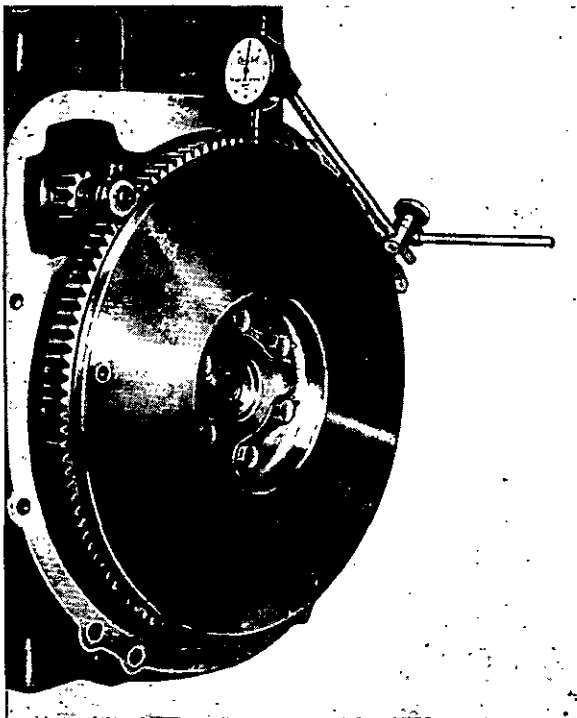

Fig. N.1. Checking Flywheel Run-out.
- Set up an indicator clock gauge with the base secured to the flywheel housing or cylinder block and adjust the clock so that the stylus is contacting the flywheel periphery. Turn the crankshaft and check total reading. The flywheel should run true within 0.012 in (0,30 mm) total indicator reading (Fig. N.1).